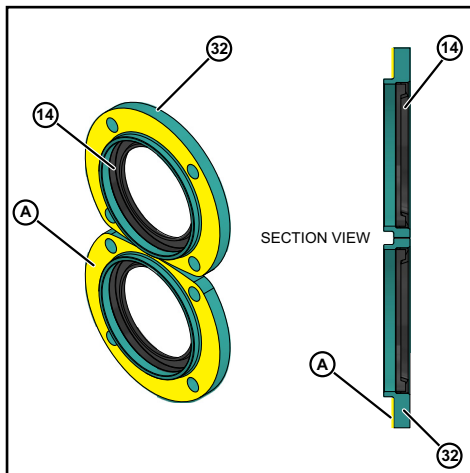

Figure 56 - Install Bearing Retainer
18. Coat the retainer flanges with silicone sealant (Figure 56, item A). (Gore-Tex® sealing tape can be used on silicone free models.) The grease seal (item 14) will be flush with the front of the bearing retainer. On 030 models, the grease seal will be against the step on the inside diameter of the retainer.
19. Install the bearing retainers (Figure 56, item 32).